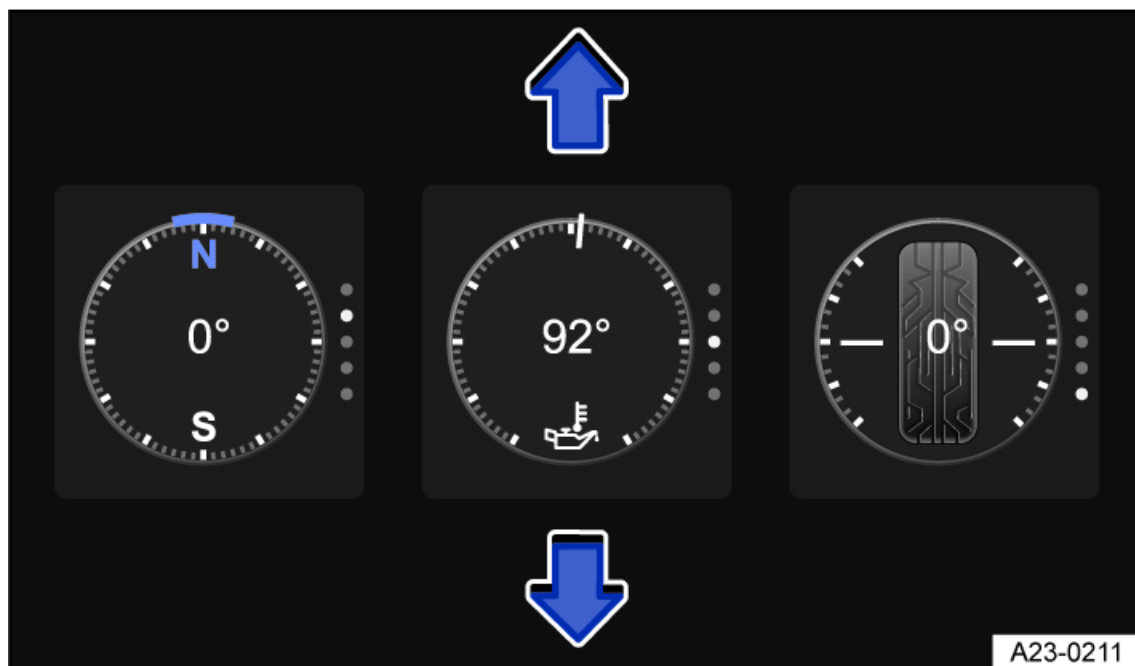

Fig. 89 Offroad display (general example).
1. Swipe vertically over each instrument fig. 89.